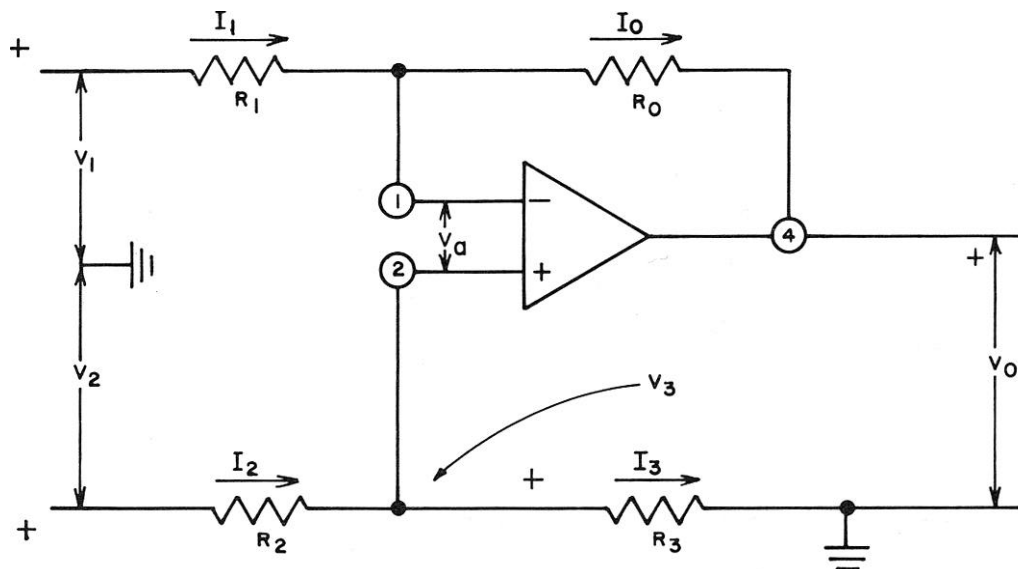
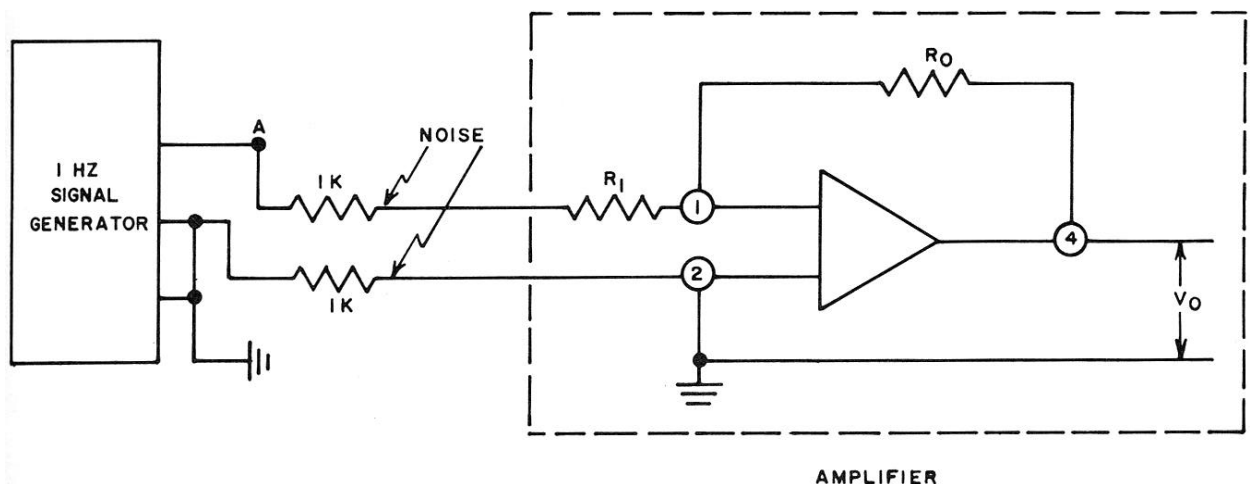
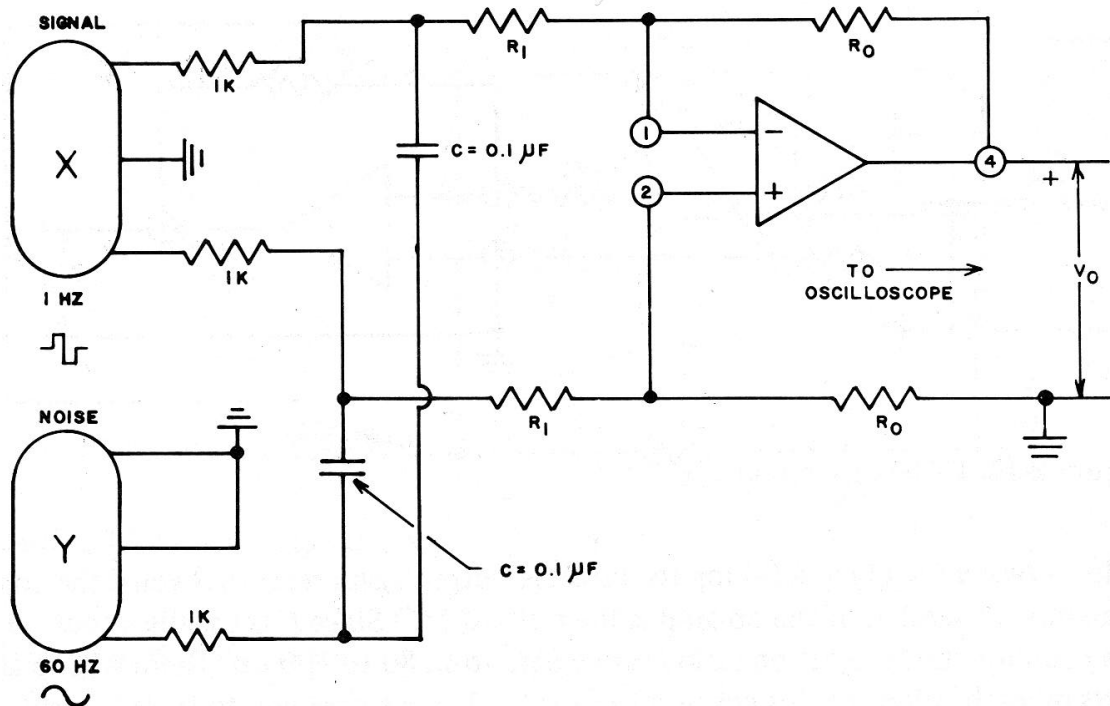
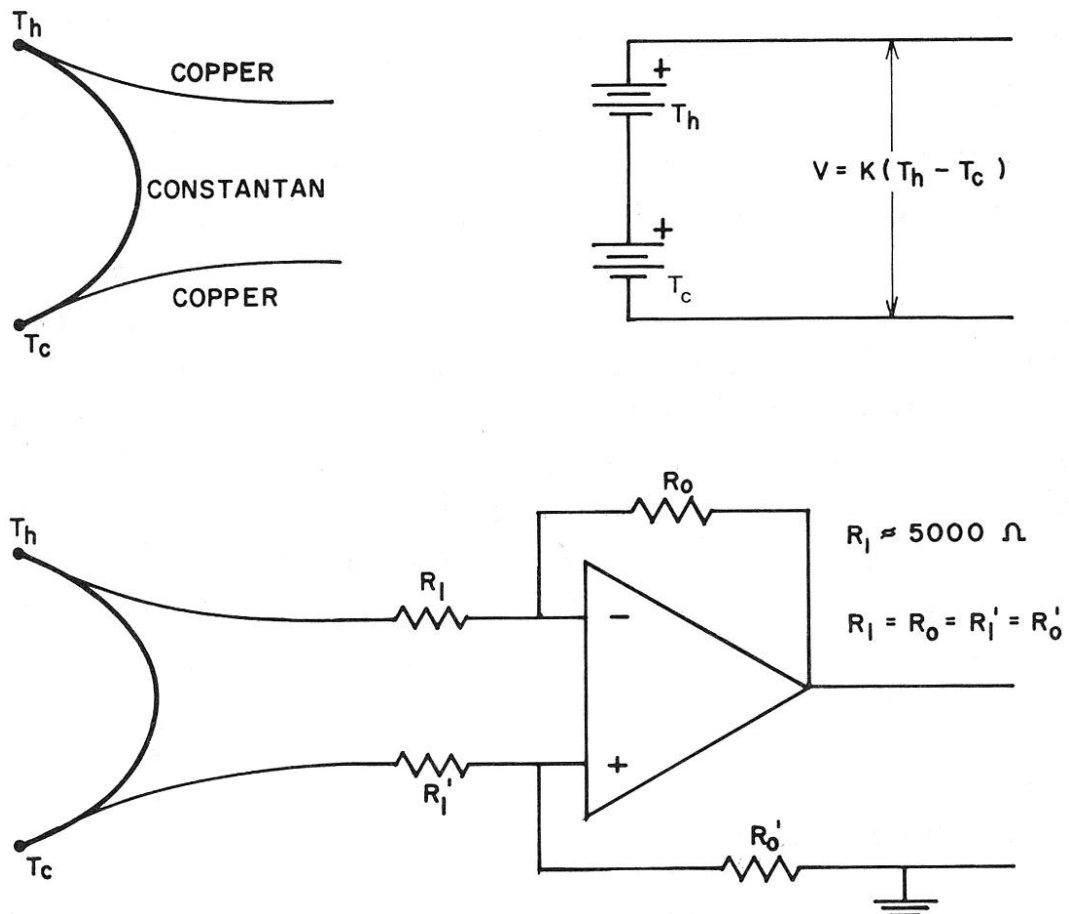

Figure 2-17. Common mode input.
Figure 2-18. Difference circuit.
Figure 2-19. Experimental differential input system. (Note that the lower resistor R_0 is needed to balance the R_0 feedback resistor.)
Figure 2-21. Thermocouple connected to an op-amp in differential mode.
An important characteristic of op -amps is called the *common mode rejection* (CMR). This simply means that if the voltages applied to inputs (1) and (2) are equal in both sign and magnitude, the output of the ideal op-amp is zero. This is easy to see if we note that terminal (1) is the inverting input, whereas (2) is the noninverting input. Suppose V_1 is a positive signal: it thus produces a negative output at (4). However, if $V_2 = V_1$, then V_2 produces a positive output at (4), and the net output is zero. This is illustrated in Figure 2-17. Note in Figure 2-17 the ground connection between V_1 and V_2 is not needed in a real circuit. We use it here as an analytical convenience.
In Figure 2-17, $I_1 = I_0$ and $I_2 = I_3$, because no current can flow into the op-amp. Now V_a is zero so
To demonstrate how the common mode rejection of an op-amp is used, we will do an example. This is a problem you might well encounter in actual practice. In Figure 2-18 we show a signal source that we want to run through wires to an opamp. Let's assume that the signal is a 1 Hz square wave from a grounded signal source. At one part of the cycle, point A is (+); at some time later, point A is (-). This is our signal. To this signal, we add 60 Hz noise from lights and motors. Thus, if the signal is 1 volt peak to peak and the noise is 0.5 volt peak to peak, the result is a mess. If we use an op-amp amplifier in the usual mode (Figure 2-18), it amplifies everything, both *signal* and *noise*.
However, if we use a differential input mode as shown in Figure 2-17, the 60 Hz noise disappears: it is rejected as being common to both inputs. The 1 Hz square wave comes through just great. To make sure you appreciate this achievement, we have designed a laboratory demonstration, which is shown in Figure 2-19.
In Figure 2-19, signal source X is the "good guy" signal going to the op-amp in the differential mode. Note that X is ungrounded – this is an important point. Of course, this requires a signal source with a *floating output* (recall that from Chapter 1, Figure 1-35). Signal source Y is the bad guy, the *noise*. Notice that it is delivered to *both* leads at the same time. Now look at the op-amp output and notice that the X signals are *amplified* and the Y signals are *rejected*. This demonstrates the ability of the differential op-amp circuit to reject common mode signals.
As an example of the common mode rejection we might consider the application to thermocouples. In Figure 2-21 we show a typical copper-constantan thermocouple pair (constantan is an alloy having specific thermocouple properties). The voltage developed is a function of the difference of temperature $T_h - T_c$ and a constant K as $V = K(T_h - T_c)$. In an "electrical" sense we have a voltage source with a "high" 5000 ohm internal resistance. (Thermocouples are *not* current devices.)
In Figure 2-21 we also show the thermocouple connected to a differential op-amp circuit. (A circuit of this type is used in Arizona for the control of air conditioning and evaporative cooler systems. The evaporative cooler works fine as long the air is dry; when the summer monsoons come, you have to switch to the much more expensive air conditioning. The thermocouple circuit is used to sense the relative humidity by having one junction "dry" and the other inside a "wet" sock. At low relative humidity, the temperature difference is large and the signal turns on the evaporative cooler and turns off the air conditioner. When the air is moist, the temperature difference decreases and the system turns the cooler OFF and the air conditioner ON. The unit sells commercially for \$65 and you can build one for \$10.)
Notice in Figure 2-21 that resistors R_i and R_o are about 5000 ohms and R_i' and R_o' are also 5000 ohms. This is done so that the resistance to ground will be the same for both the T_h and T_c leads.
In most circuits the signal source "knows" where ground is (for example, Figure 2.18), but with thermocouples it is poor practice to ground either of the junctions. So you insure proper grounding as shown in Figure 2-21. Note that T_h "sees" ground at the (-) input via a total of 10,000 ohms plus the load resistance, which is usually rather low. To make everything balance we have to ensure that the "cold" junction T_c has the same resistance to ground; this is done by making R_1' and R_0' equal to 5000 ohms each. The reason for all this fuss is that there will always be some current drawn by any real op-amp and that current has to come from the power supply via the "ground" connection. Another trick that might be used if we don't have the CMR circuit shown in Figure 2-21 involves connecting 2 M resistors from each of the thermocouple connections T_h and T_c to ground. The 2M resistors will not draw enough current to upset the op-amp or the thermocouple reading.
Returning for the moment to the topic of difference versus differential circuits we might note that there is a confusing problem of nomenclature. Correctly speaking, the circuit of Figure 2-17 should be called a *common mode noise rejection or differential input circuit*. A circuit like those shown in Figure 2-18 or 2-20, where the signal input is with respect to *ground*, ought to be called a *difference circuit*. Unfortunately, there is no consistency in this matter, either in the industry or in the literature. You just have to look at the circuit and figure it out for yourself. We have tried to be consistent with our notation in this book, but we *do* have to show you how things are done in the real world.
We begin by noting that with a regular op-amp the gain is under your control, you simply change the feedback resistors. However, the design of the unit is such that it is hard to get high gain and good CMR at the same time. The situation is even worse if the two input resistors (Figure 2-21) are not identical in value. (This can happen in industrial or medical applications and is obviously a problem.) Another difficulty with the usual op-amp circuit, with CMR, is living with relatively low input impedance and obtaining a good CMR at the same time.